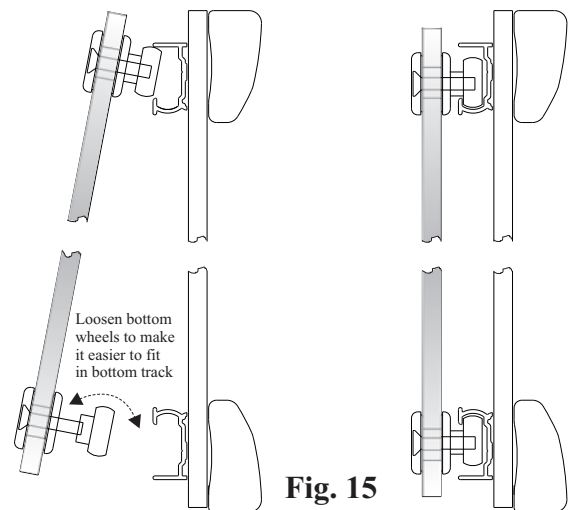

Fig. 15
- 9** **FITTING THE SLIDING DOORS**, Each sliding door has four wheels pre-fitted. In order to insert the top wheels into the top track as shown in Fig. 15 - it will be necessary to loosen the four bottom wheels. Each door can then be angled as shown and the two top wheels inserted into the track, then lower the door into position by guiding the two bottom wheels into the bottom track.